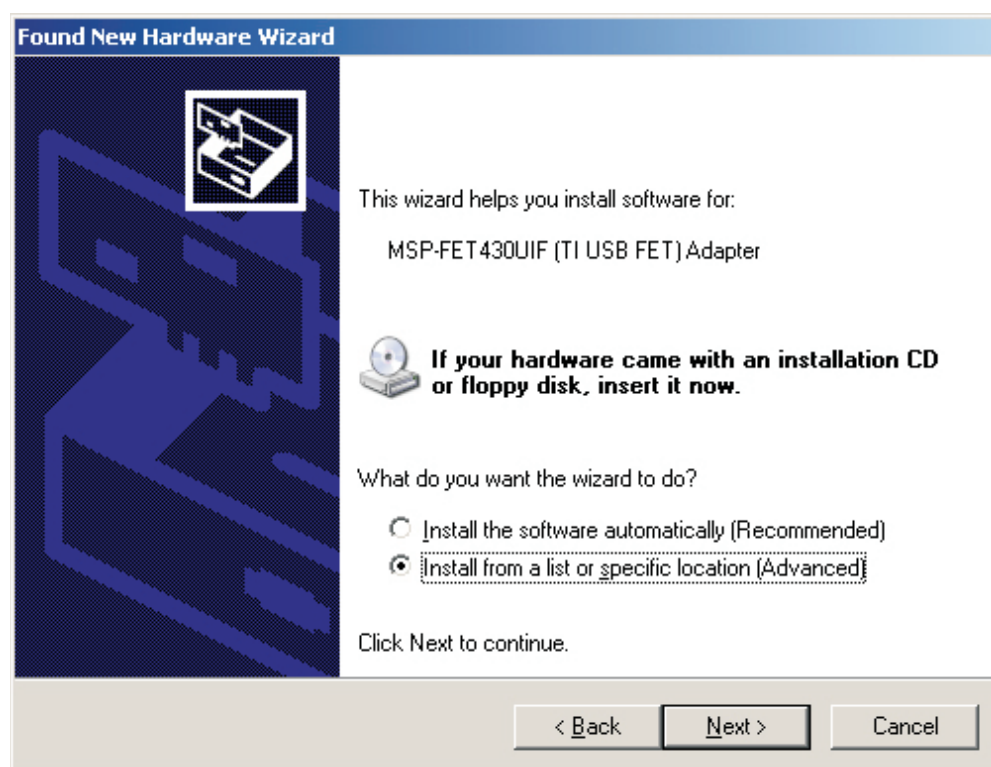

Figure E-2. WinXP Hardware Wizard
4. Select "Install from a list or specific location (Advanced)" (see Figure E-2).